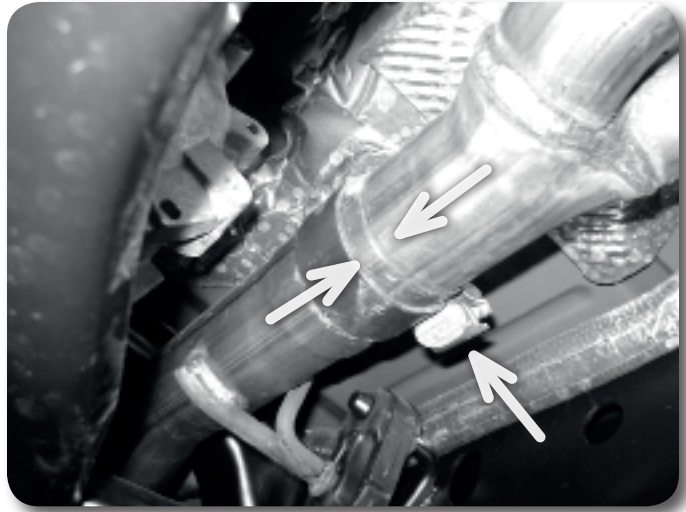

Figure 2
8. Go to the rear of the vehicle and check the exhaust clearance to the sway bar. In some cases it is necessary to loosen the clamp as shown in Figure 2 and push the exhaust together to gain more clearance.